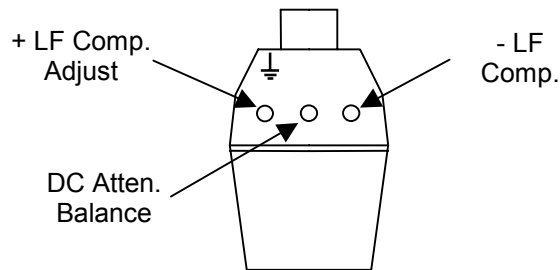

Figure 8. ± 10 Attenuator Adjustment Locations
11. Using the square adjustment tool, adjust the **+LF Comp** (See Figure 8) to achieve the best square corner and flat top of the displayed waveform. Note that the added capacitance of the adjustment tool may change the compensation of the waveform when it is inserted into the adjustment. The correct adjustment is achieved when the best corner is displayed with the adjustment tool removed.
15. The displayed waveform is the common mode feedthrough. Using the adjustment screwdriver with the flat blade, adjust the DC Atten. Balance (See Figure 8) to minimize the amplitude of the flat portions of the displayed waveform. This adjustment only affects the flat portions of the square wave. Do not be concerned with any overshoot at the transitions.
18. Using the 0.025 in. square adjustment tool, adjust the **-LF Comp** (See Figure 8) to minimize the amplitude of overshoot